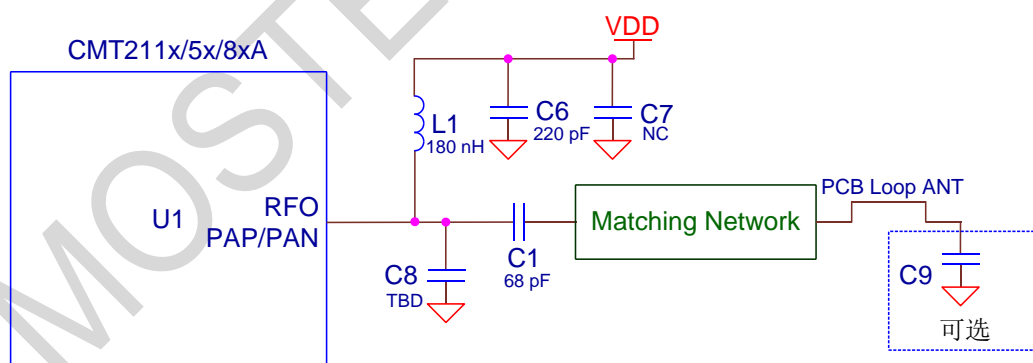

Figure 2. CMT211x/5x/8xA Single-ended Output PCB Antenna Circuit Design
- 4) Design the position of an optional ground-to-ground capacitor (C9 in Figure 2) at the end of the antenna to optimize the transmission power.